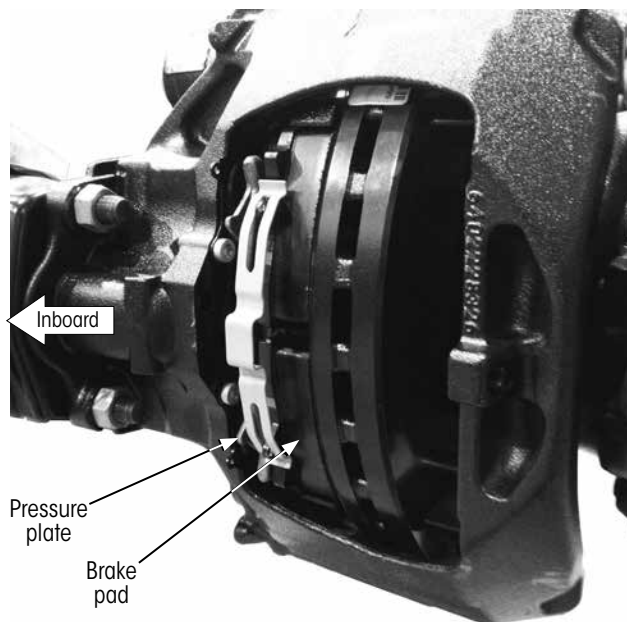

Figure 25: Removing inboard brake pad and pressure plate
10. **Manually push** the brake caliper inboard (Figure 25, arrow).